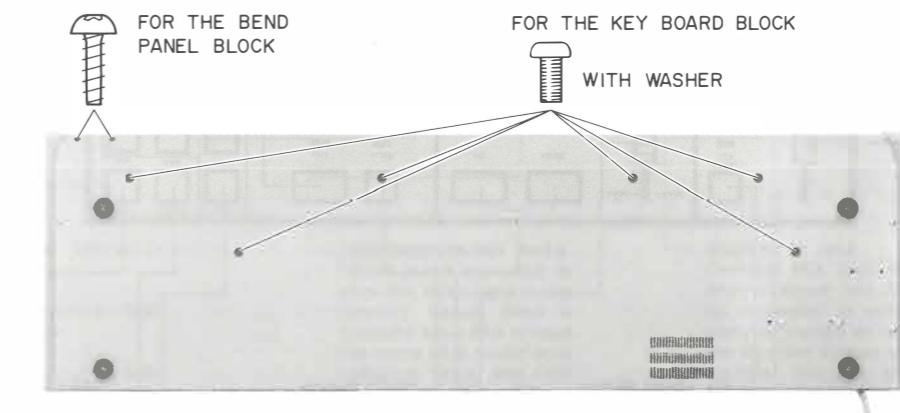

Fig. 1-2
1-2. HOW TO DISMANTLE THE KEYBOARD (Refer to Fig. 1-2 and Fig. 1-3)
1-3. HOW TO DISMANTLE THE BEND PANEL BLOCK (Refer to Fig. 1-2 and Fig. 1-3)
- 1) Remove 6 screws as shown Fig. 1-2 and Fig. 1-3, and disconnect the connectors P4, P5 on the CPU PC Board and P1 on the OPERATION (B) PC Board.